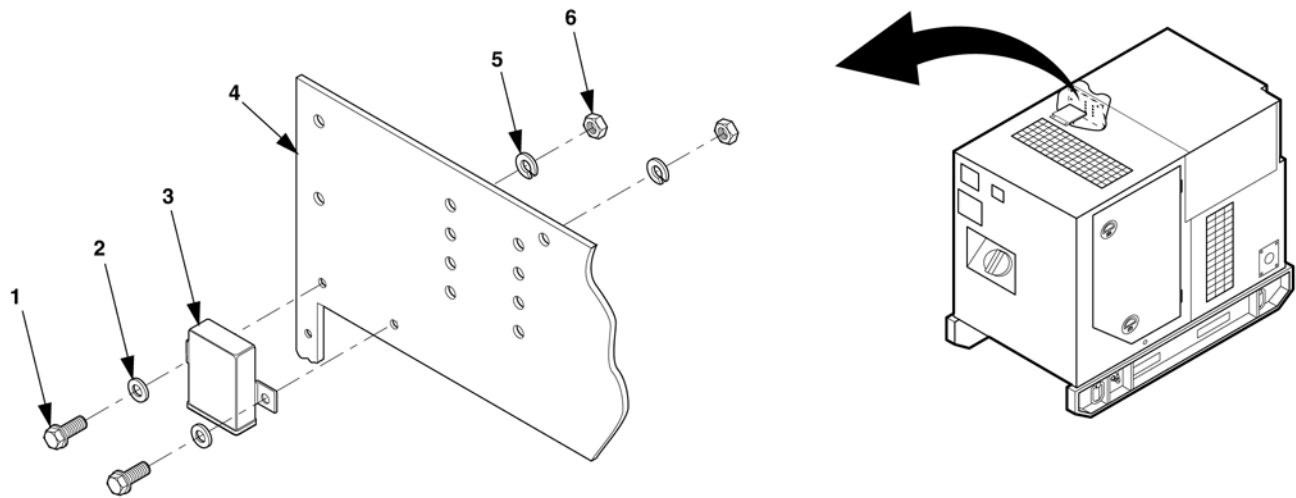

Figure 4-32. Control Unit Removal.
6. Remove control unit, (3), from center bulkhead housing (4) with screws (1), flat washers (2), lock washers (5) and nuts (6), Figure 4-32.